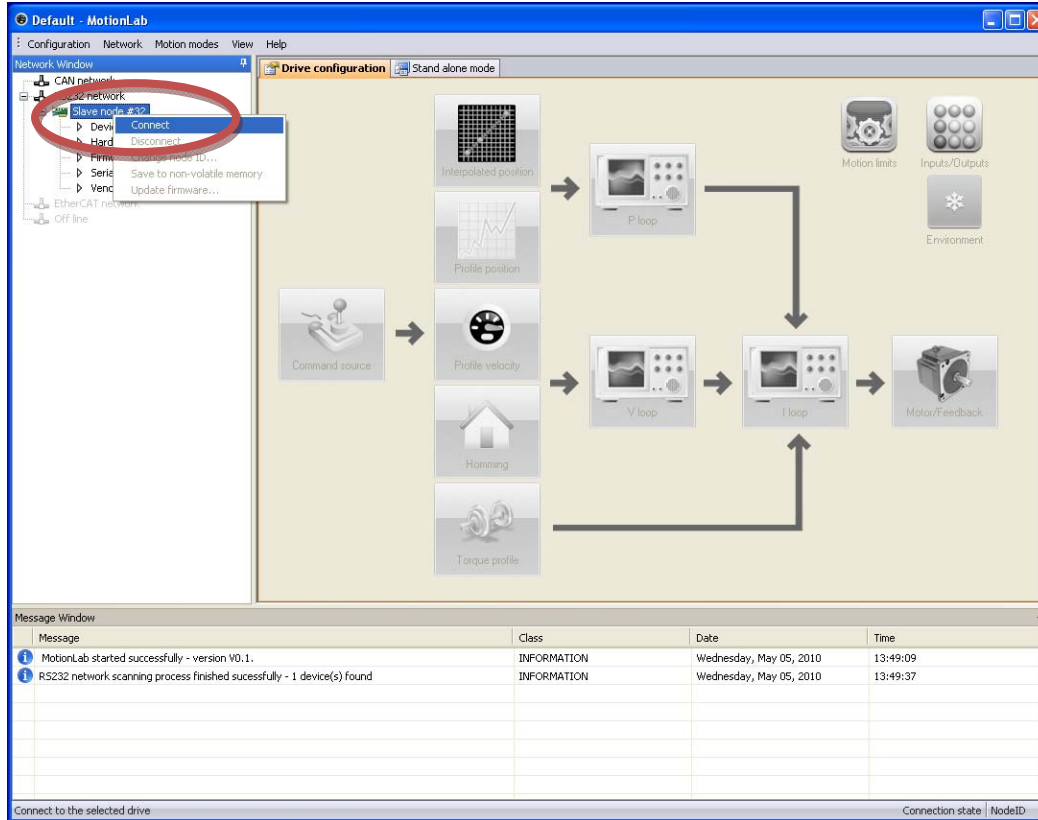

Figure 4: Connecting to a node
4. **Connecting to one node:** It must be noted that until now there is no connection with a node, we only have scanned the bus. In order to connect with a node we must right click over the target node in the network window and press *connect* (See Figure 4)